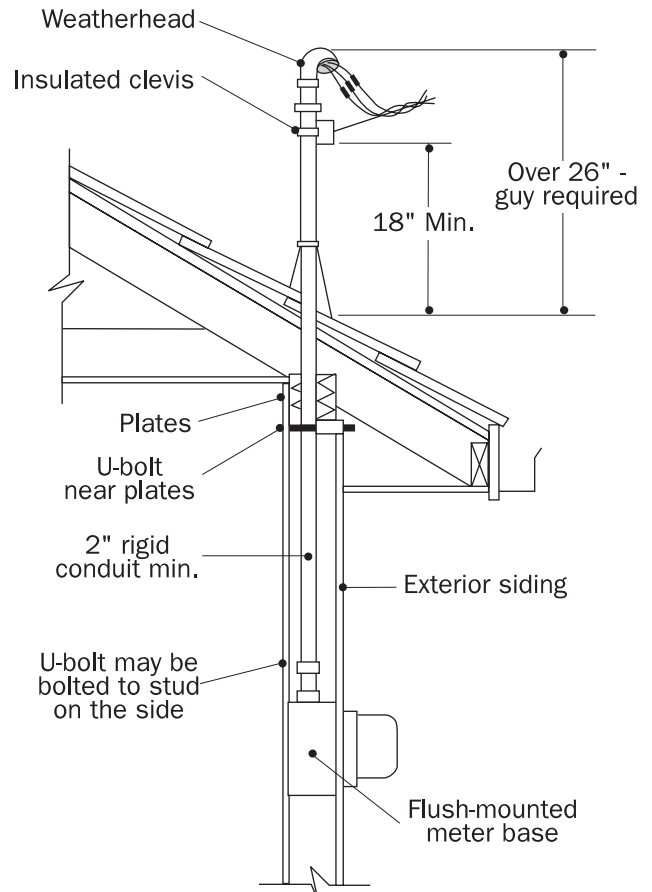

Figure 13.
- Flush mounted (see Figure 13)